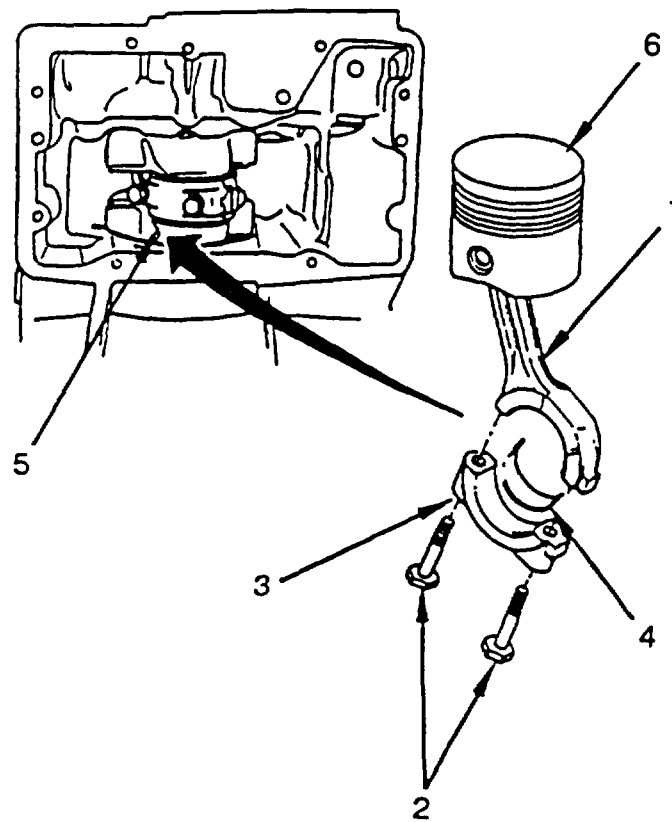

Figure 6-2. Cylinder, Piston, and Connecting Rod Assembly (Sheet 1 of 4)
a. Disassembly. (Refer to Figure 6-2, Sheet 1 of 4 and 2 of 4).